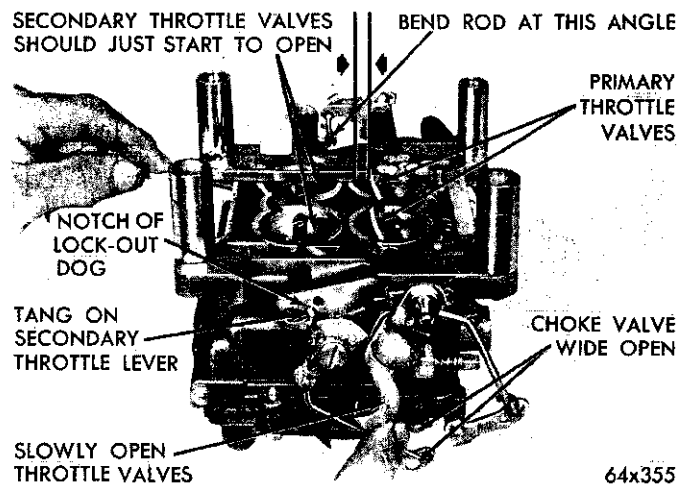
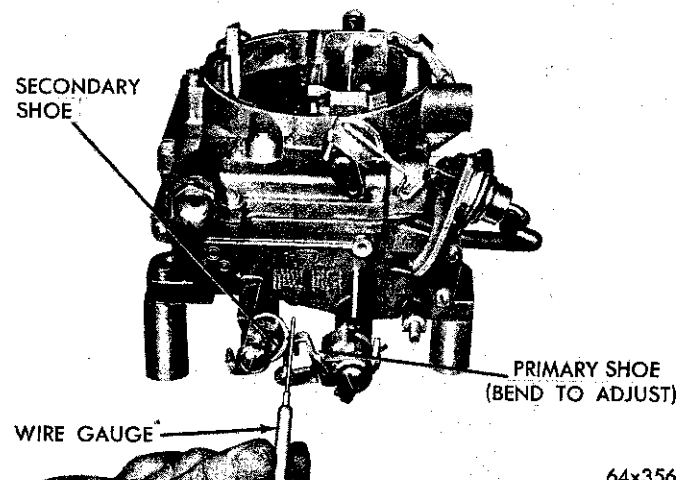

Fig. 19—Testing the Secondary Throttle Adjustment
Fig. 20—Measuring Clearance Between Closing Shoes
(1) To measure the secondary throttle lever adjustment, block the choke valve in the wide open position and invert the carburetor.
(2) Slowly open the primary throttle valves until it is possible to measure  $2\frac{1}{4}$  inch between the lower edge of the primary valve and the bore (opposite idle port) as shown in Figure 19. At this measurement, the secondary valves should just start to open.
(3) If an adjustment is necessary, bend the secondary throttle operating rod at the angle, using Tool T109-213, until correct adjustment has been obtained.
(4) With the primary and secondary throttle valves in the tightly closed position, it should be possible to insert Tool T109-29 (.020 inch) wire gauge, between the positive closing shoes on the secondary throttle levers, as shown in Figure 20.
(5) If an adjustment is necessary, bend the shoe on the secondary throttle lever, using Tool T109-22, until correct clearance has been obtained.
(1) Open the throttle valves slightly, then manually open and close the choke valve. The tang on the secondary throttle lever should freely engage in the notch of the lock-out dog. (Refer to Fig. 19.)
(2) If an adjustment is necessary, bend the tang on the secondary throttle lever, until engagement has been made. Use Tool T109-22 for this operation.
(3) After adjustments have been made, reinstall carburetor on engine, using a new gasket.
(4) It is suggested that the carburetor bowl be filled with clean gasoline. This will help prevent dirt that is trapped in the fuel system from being dis-